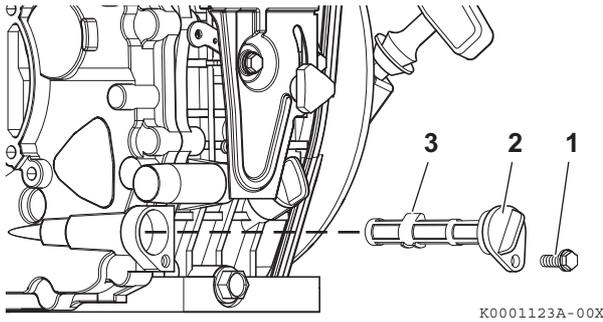

Figure 4
1. Remove the oil filter retaining bolt (**Figure 4, (1)**).
2. Pull the oil filter cap (**Figure 4, (2)**) out and remove the oil filter (**Figure 4, (3)**).
4. Install the oil filter (**Figure 4, (3)**).
5. Make sure the oil filter cap is fully seated (**Figure 4, (2)**).
6. Install and tighten the oil filter retaining bolt (**Figure 4, (1)**).